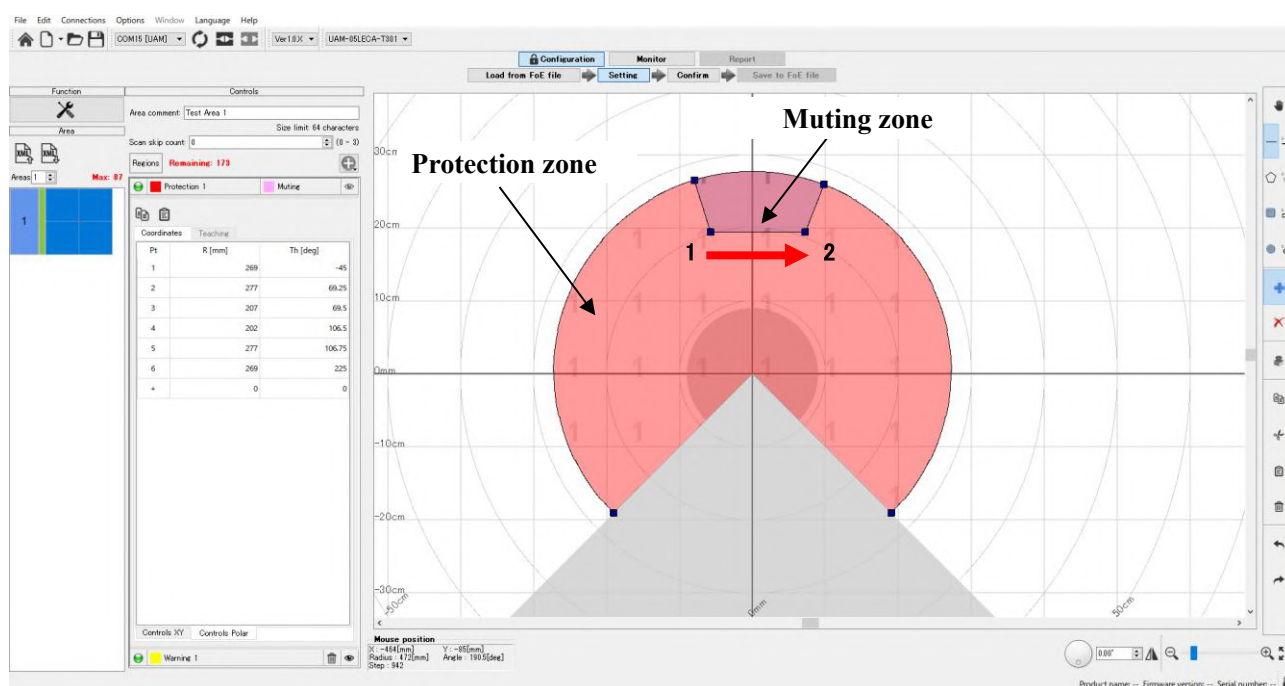
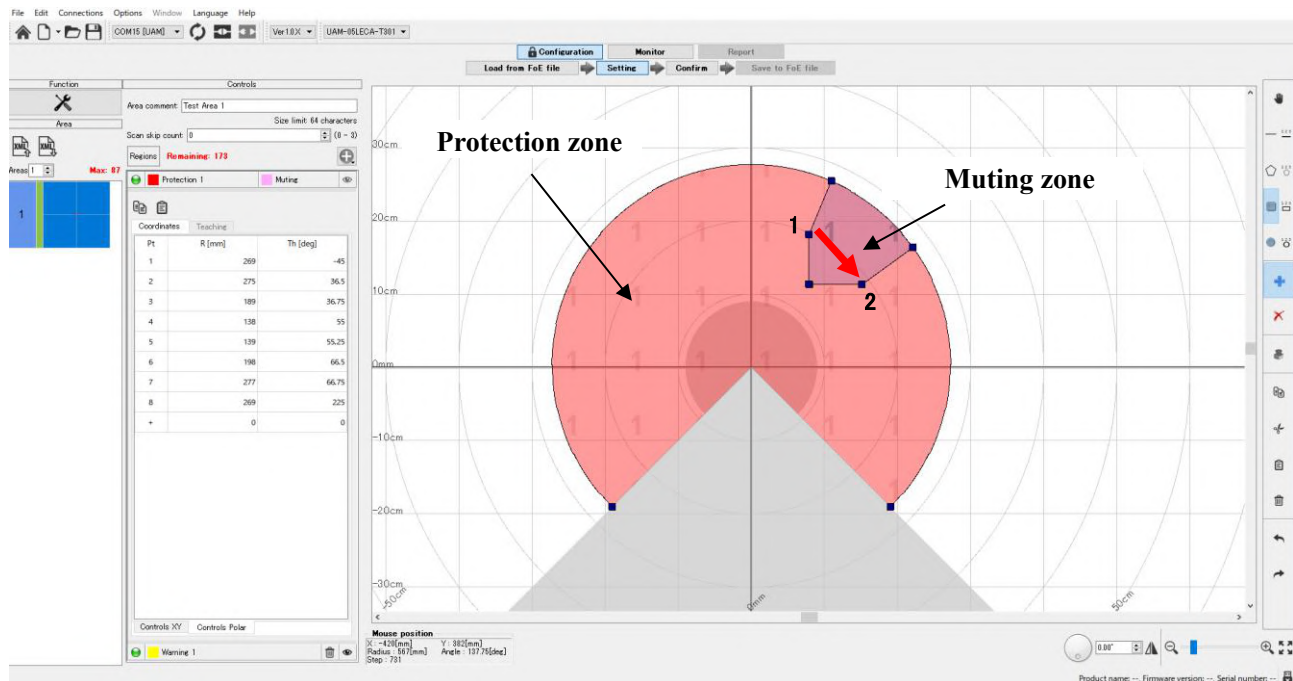

Figure 7-38 Muting zone configuration example 1
Figure 7-39 Muting zone configuration example 2
- Figure 7-38 and Figure 7-39 shows an example of the muting zone configuration. Region in pink represents the muting zone.